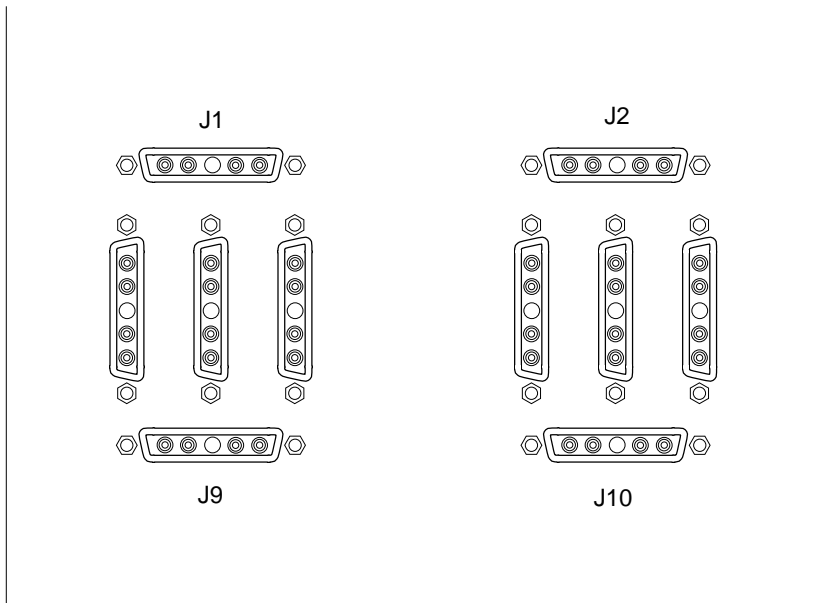

FIGURE 2 Power Connectors on Existing Power Shelf—Typical
- 2. Remove the existing power cables (red jacket) from four horizontal connectors (J1, J2, J9, and J10) of the existing power shelves (FIGURE 2).**
4. **Attach the (black) DC power cables to the lower horizontal connectors J9 and J10 on the existing power shelves (FIGURE 2).**
5. **Attach the straight connector ends of the (red) DC power cables to the upper horizontal connectors J1 and J2 on the existing power shelves (FIGURE 2).**